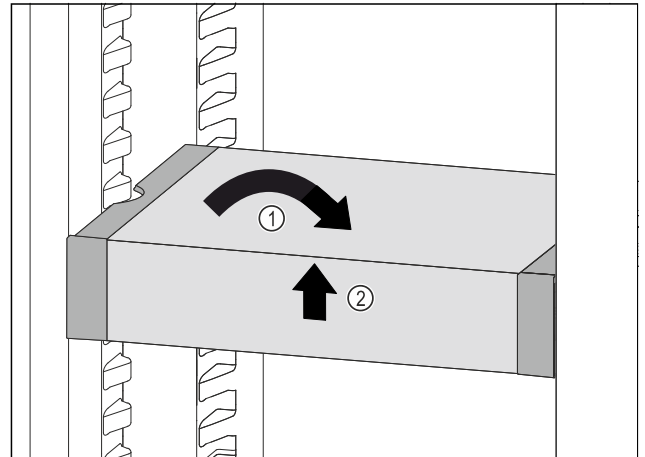

Fig. 82
- Set VarioSafe straight. Fig. 82 (1)
- Lift VarioSafe at the front. Fig. 82 (2)